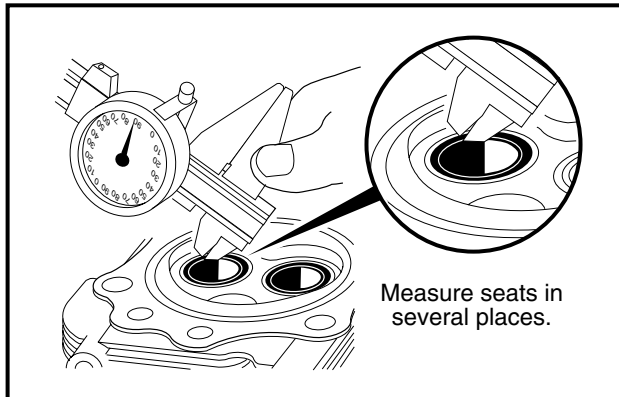

Figure 13-25 Measuring Valve Seats
- 2.2. Measure the seat width of the 45° angle portion of the seat at several places around the seat (**Figure 13-25, Page 13-16**).